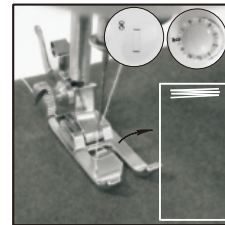

Fig. 17
- (1) Put the cloth under the presser foot and lower the presser foot on the cloth where you need to sew buttonhole, then choose the stitch pattern #8.
- (2) Turn on the switch and sew 5-6 stitches in low speed, then turn off the switch (Fig. 17).